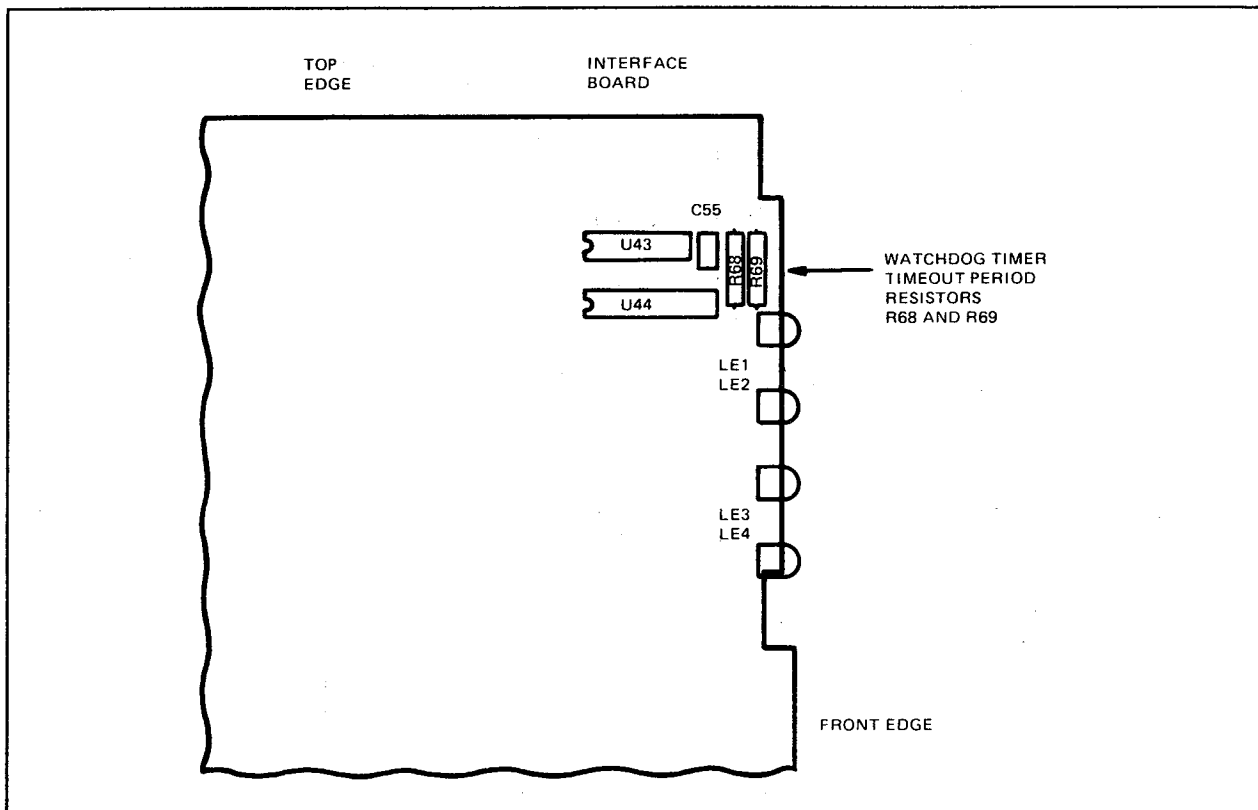

Figure 3-37. Changing the Watchdog Timer Timeout Setting
4. Refer to Figure 3-37 and locate resistors R68 and R69.